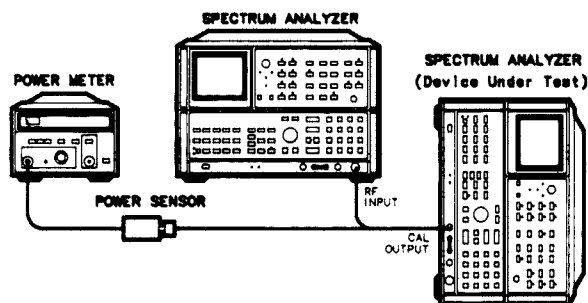

Figure 3-84. Cal Output Adjustment Setup
1. Set the spectrum analyzer LINE switch to STANDBY. Position the spectrum analyzer on its right side as shown in Figure 3-84, and remove the RF Section bottom cover.